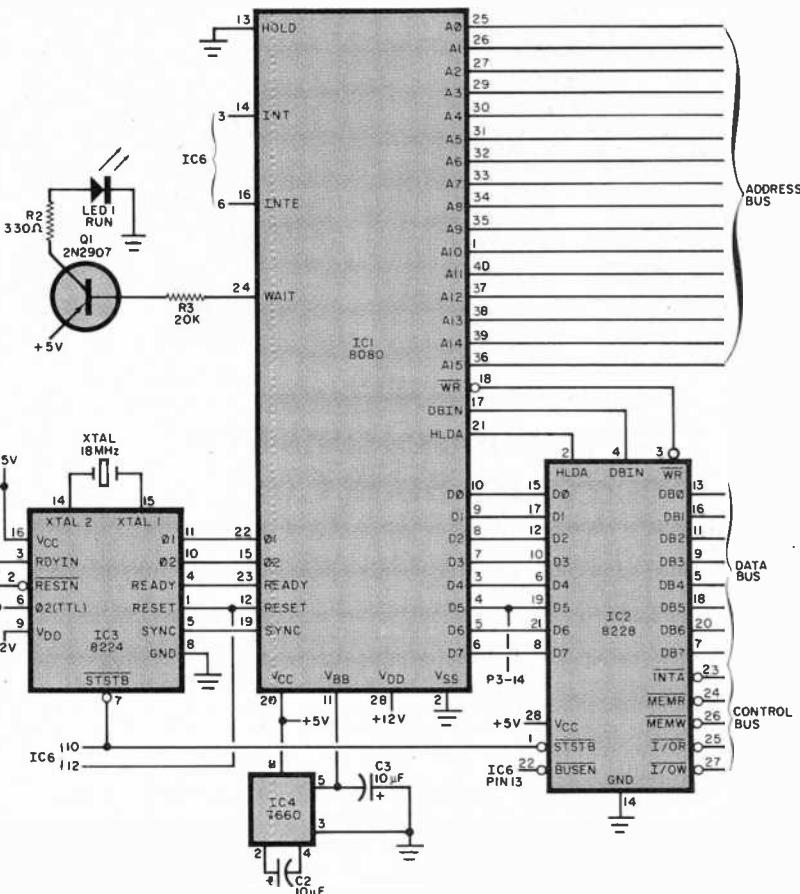

Fig. 5. Schematic of the microprocessor, clock generator (IC3) and control signal generator (IC2).
**I**N Part 1 of this series, we discussed the basic features of a central processing system, using the 8080 as an example. Included were descriptions of how such features as the memory, input/output devices, and programming work. Now we will examine how to design a CPU module based on the 8080. The schematic of such a module is shown in Figs. 5 through 7.
**Circuit Description.** The 8080 microprocessor, (*IC1* of Fig. 5) initiates and directs all operations between itself, the memory, and the I/O units. Crystal-